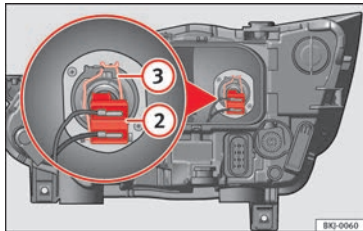

Fig. 111 In the engine compartment: dipped beam headlight.
- Remove the bulb connector » **Fig. 111 ②**.
- Unclip the retainer spring » **Fig. 111 ③** pressing inwards to the right.